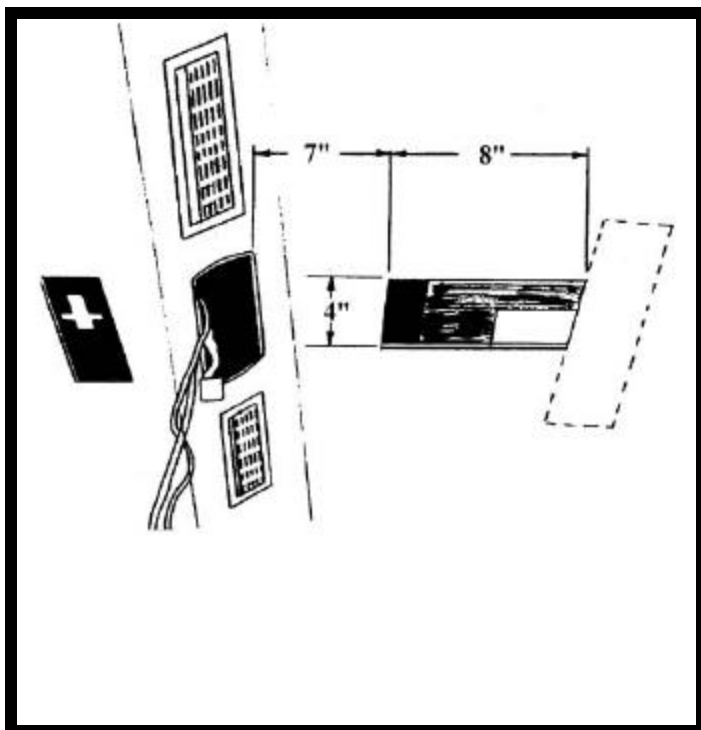

FIGURE 12
12. Measure 7" from rear A/C control opening toward rear of vehicle. Using a razor knife, carefully cut an opening that is 4" wide x 8" long. Make sure that the 4" width is centered in the vehicle. See Figure 12.
13. Insert the 6" x 14" piece of plywood (item 8 pg 2) through opening and rotate 90°.